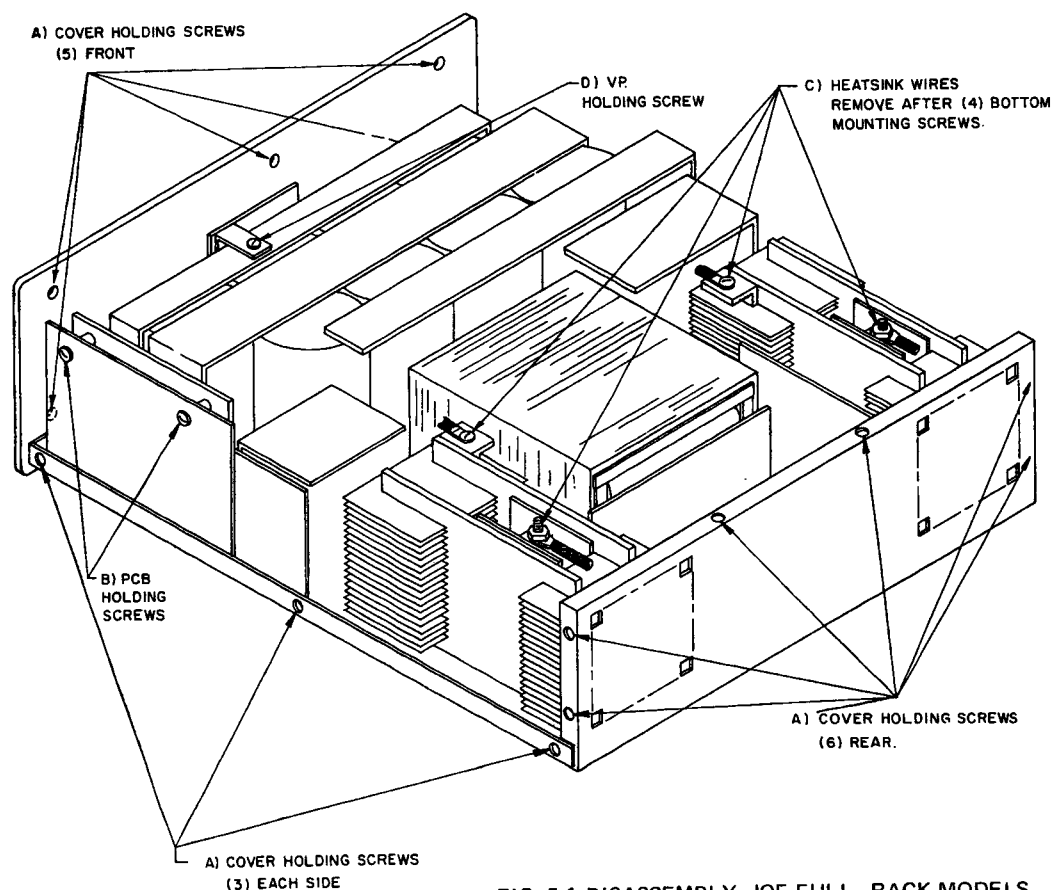

FIG. 5-1 DISASSEMBLY, JQE FULL-RACK MODELS
5-3 DISASSEMBLY (Refer to FIG. 5-1)
- a) COVER REMOVAL. The wrap-around cover may be taken off by loosening and removing its (17) holding screws, as indicated.
- b) CIRCUIT BOARD REMOVAL. The printed circuit board is mounted with two (2) screws, which are removed from the side. After removal of the three printed circuit board connectors, the board may be lifted from its slide-guide.
- c) HEAT SINK REMOVAL. The heat sink assemblies are mounted with four (4) screws each to the chassis bottom. After the screws are taken out, the indicated wires may be removed and the assemblies lifted from the chassis.
- d) OVERVOLTAGE PROTECTOR (A4) REMOVAL. (On models with suffix—"VP" only). Remove the holding screw as indicated (Refer to FIG. 5-1) and lift assembly out.